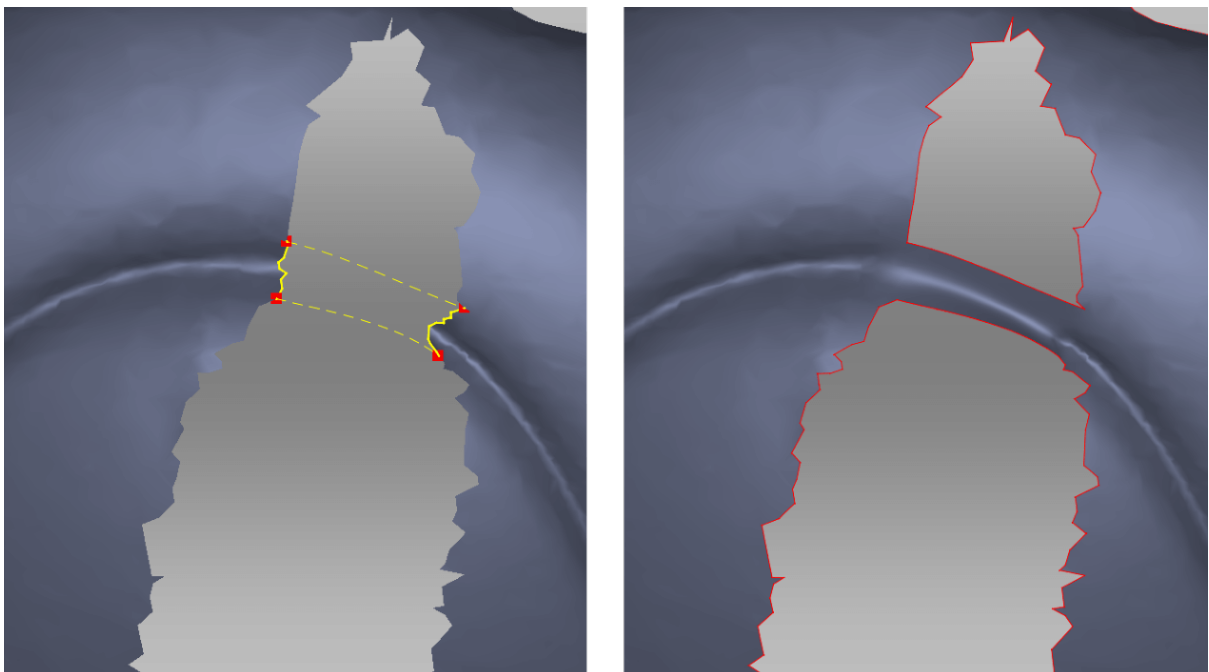

Figure 88: Specifying fragments. Correct fragments can resolve original geometry.
2. Specify two opposite fragments³ between which a bridge will go (Figure 88). There are two ways to do this:
Preserve the original geometry (Figure 88)	Clear the Smooth edges first checkbox